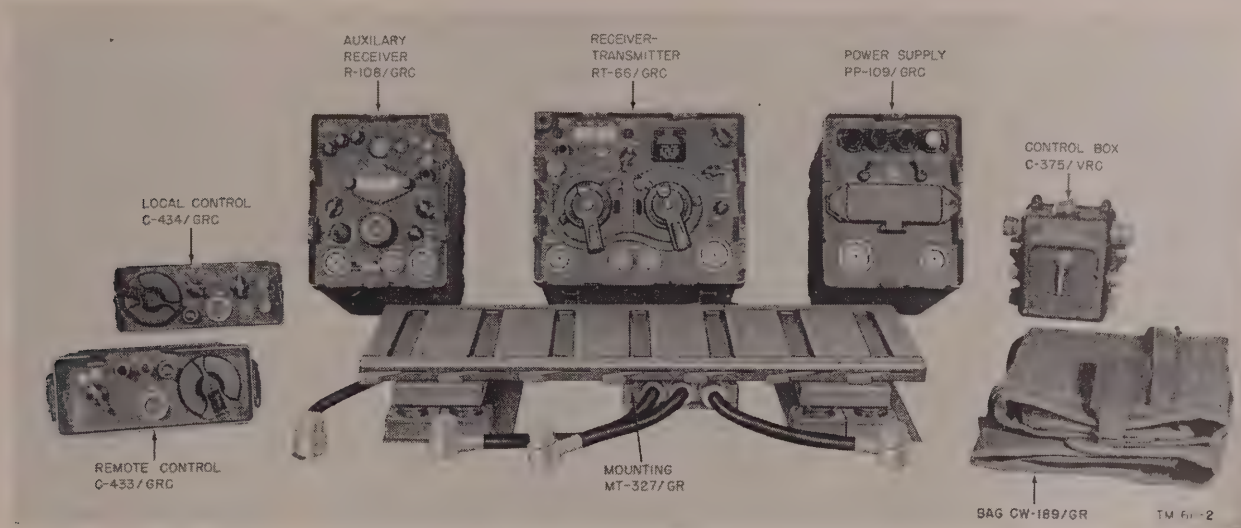

Figure 3. Components of Radio Set AN/VRC-16.
a. INTRODUCTION. All of the basic radio sets have the following items in common: a receiver-transmitter, a receiver, suitable power supplies, a mounting, three control units, suitable antenna systems, and interconnecting cables. Radio Set AN/VRC-16 (fig. 3) described in *b* below is typical of all the sets discussed in this manual. The nomenclature outlined in paragraph 2 and the listing of components (table I) will facilitate adaptation of the description to Radio Sets AN/VRC-17 and -18. The system cordage diagram (fig. 26), which is essentially a composite illustration of all sets, also is helpful in the understanding of the various systems.
a. The following is a list of minor components (fig. 3):
- (1) Mast Base AB-15/GR.
- (2) Mast Sections MS-116-A, MS-117-A, MS-118-A.
- (3) Adapters UG-273/U and UG-306/U.
- (4) Special Purpose Cable Assembly CX-1211/U.
- (5) RF Cable Assembly CG-568/U (4 ft. 2 in.).
- (6) Wire W-142.
- (7) Special Purpose Cable WM-46/U.
- (8) Bag CW-206/GR.
- (9) Case CY-684/GR.
- (10) Connector and bondnut, Appleton Electric Co. Nos. 61007 and BL-50.